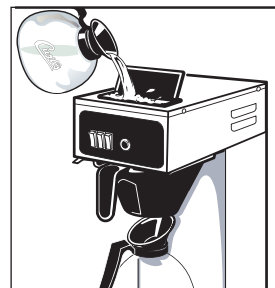

Figure 3. Pour cold water into pour hole.
3. Take another decanter and pour water into the hole on the top cover (fig. 3.). Brewing will take about three minutes.
**NOTE:** You should have at least two decanters for brewing coffee. One for pouring water, the other to brew coffee into. Airpot brewers will require a pitcher that holds 74 ounces (see figure 3).